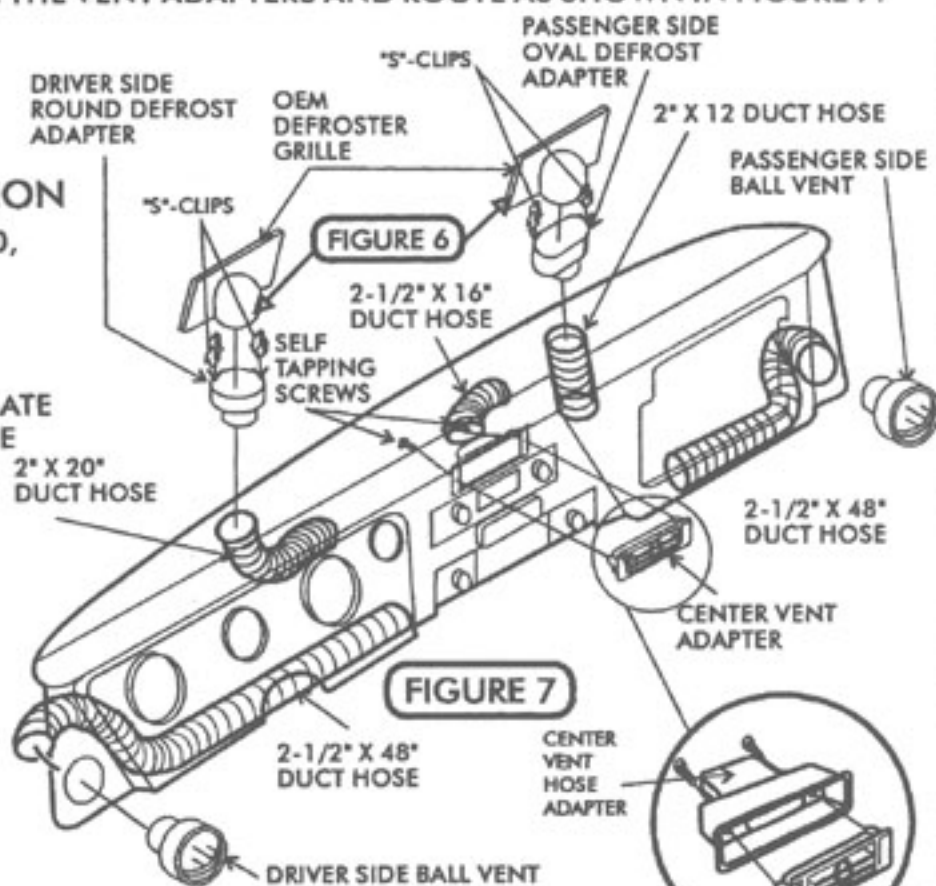
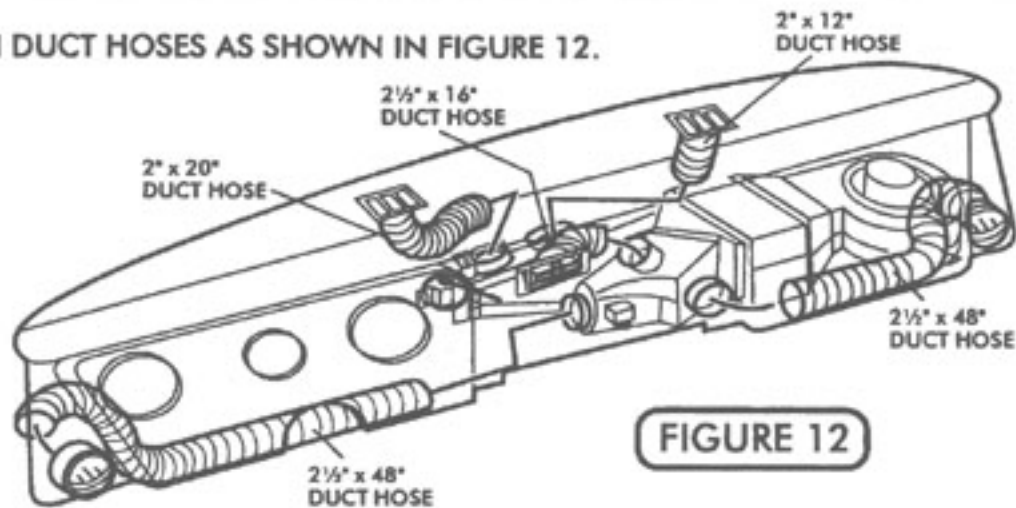

FIGURE 7A
FIGURE 12
- ATTACH THE CENTER VENT ADAPTER (BEHIND THE DASH BOARD) TO THE CENTER VENT WITH THE SUPPLIED SELF TAPPING SCREWS. SLIP A 2-1/2" x 16" DUCT HOSE ON THE ADAPTER (SEE FIGURE 7A ON PG. 3 & FIGURE 12 ON PG. 7).
- ATTACH DUCT HOSES AS SHOWN IN FIGURE 12.